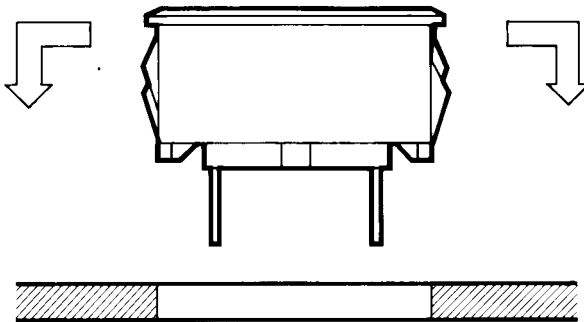

Figure 2. Installation of the Light Bar/Panel Mount Assembly into a Front Panel.
3. Applying even pressure to the top of the mount, press the entire assembly into the hole from the front of the panel[5]. (See Figure 2.)